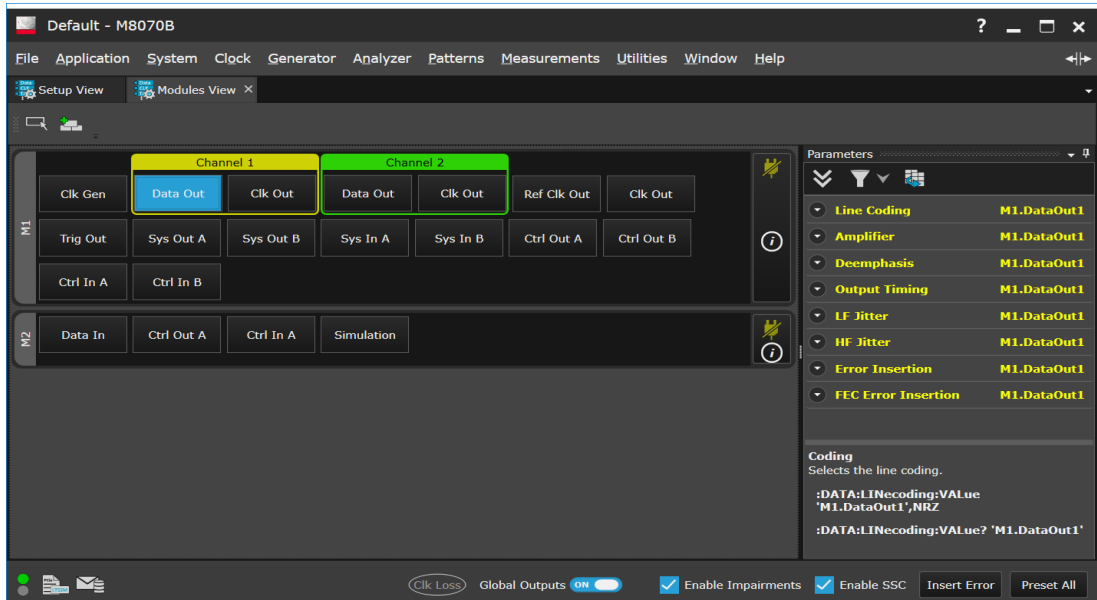

Figure 18 M8070B user interface
- 4 The screen shown in Figure 18 on page -48 should now be displayed.